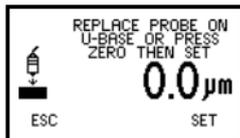

Figure 34. Zero the display
- Press **ZERO** softkey to zero the display (Figure 34).